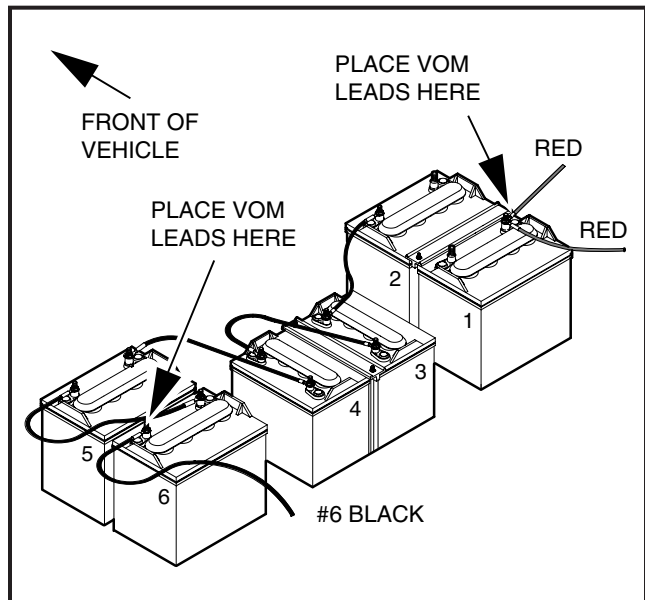

FIGURE 19-7
4. Measure the voltage of the battery pack between the positive post of battery No. 1 and the negative post of battery No. 6; normal no-load voltage will be 50 to 52 volts for fully charged batteries. The voltage of the battery pack must be over 36 volts DC in order to allow the on-board computer to close the charger relay (**Figure 19-7, Page 19-14**).